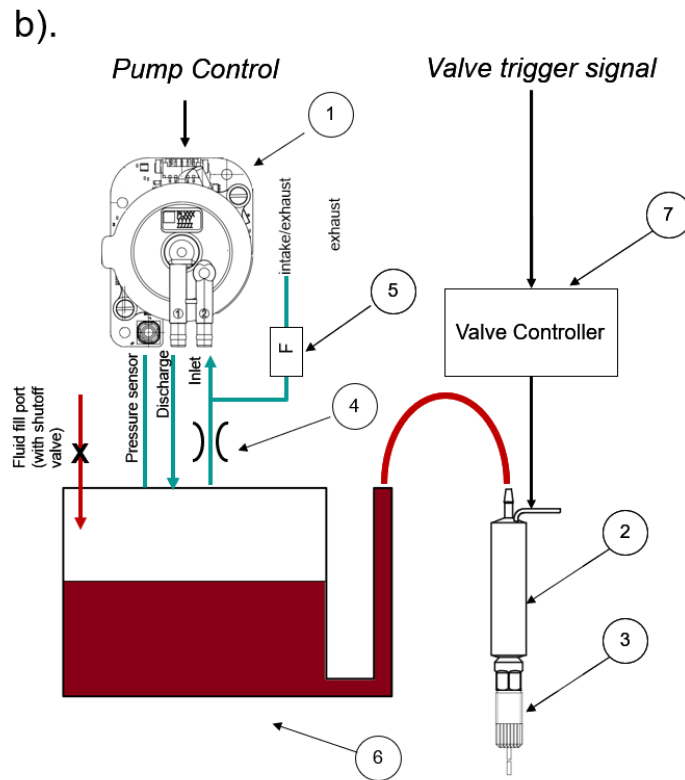

Figure 5. Prototype Schematic B
Figure 5 shows an alternative design in which the Smart Pump Module inlet (1) is connected to the reservoir by way of an orifice (4). The orifice provides a small air leak path from the fluid reservoir, allowing pneumatic setpoint to be reduced more rapidly (instead of relying on back-leak through the pump which can be slow) as well as typically improving PID pressure control performance. A further benefit to this scheme is that